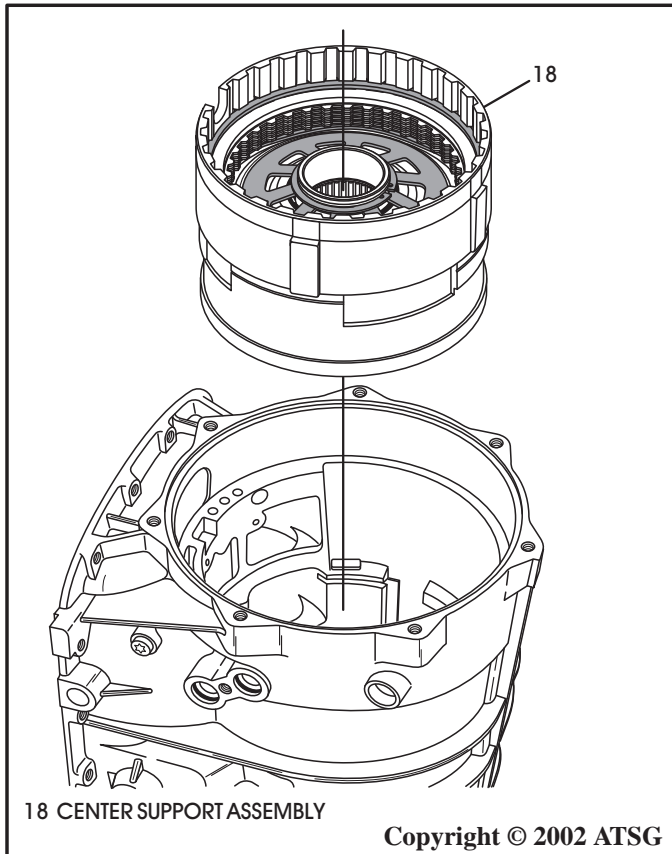

Figure 52
45. Remove the center support assembly from the case, as shown in Figure 52, and set aside for the component rebuild section.